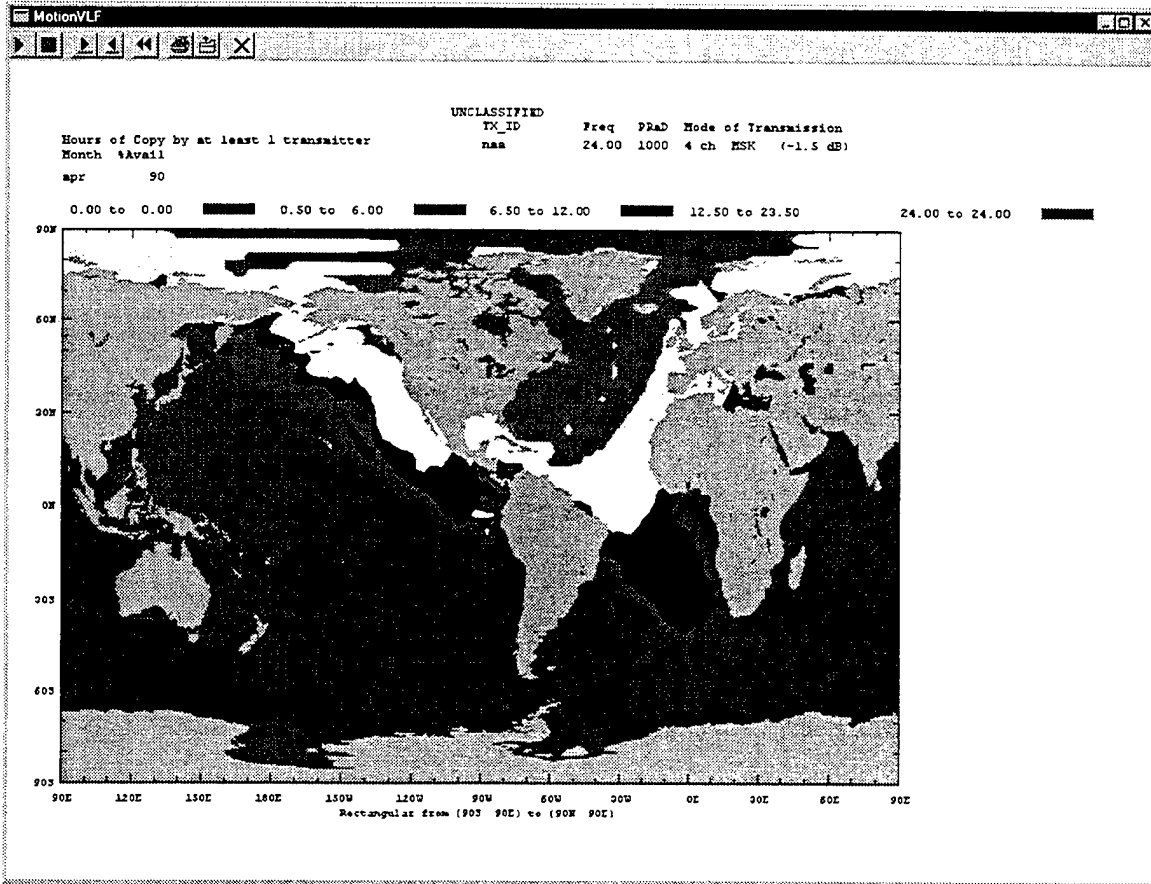

Figure 25. Example of an hours of copy coverage chart.
- An hours of copy coverage chart that summarizes the number of hours that the selected transmitter covers an area. To view an Hours of Copy coverage chart, select Run Scenario->Show HofC. Figure 25 shows an example of the resulting hard copy.